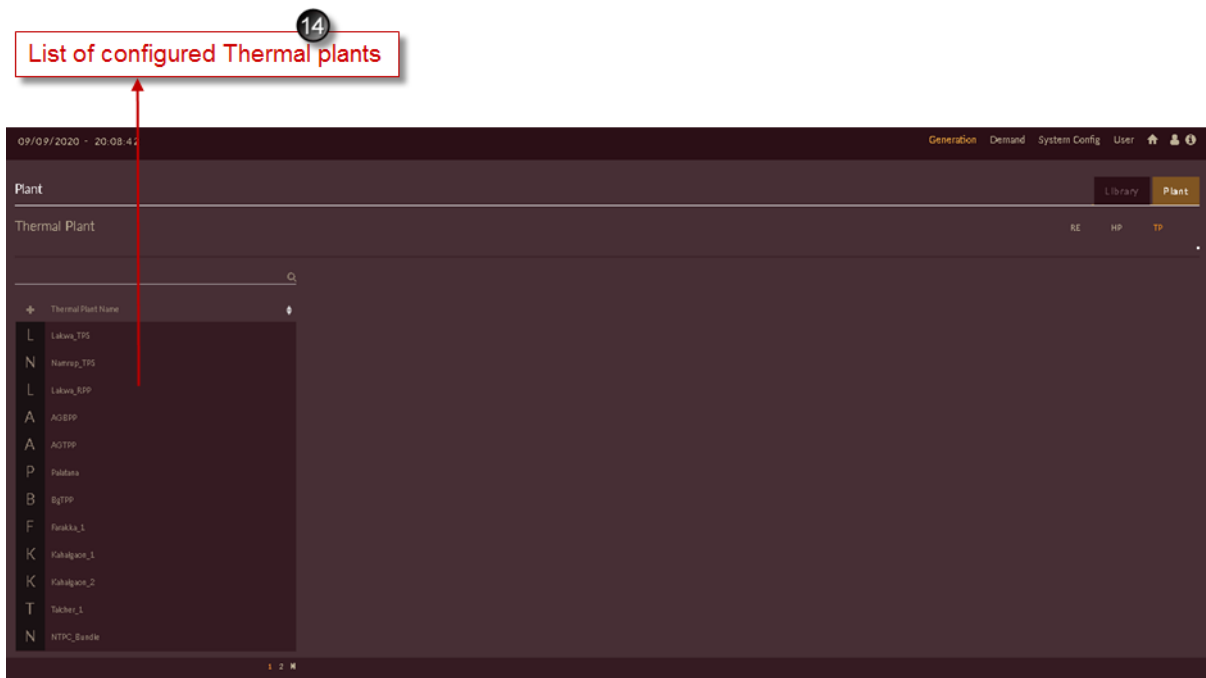

Figure I 63. List of Configured Thermal Plants
14. Once all the Thermal plants are added and configured the final Thermal plant - TP page will appear as shown in Figure I 63. List of all the Thermal plants will appear on left of the application page.